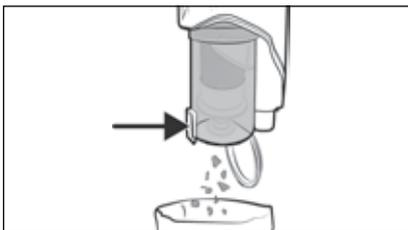

Fig. 16
- 1) Hold the dust container **7** in a waste bin and press the release button for the dirt container lid **8**. The dust container lid **9** opens and the contents are emptied into the waste bin (see Fig. 16). Then close the dust container lid **9**.